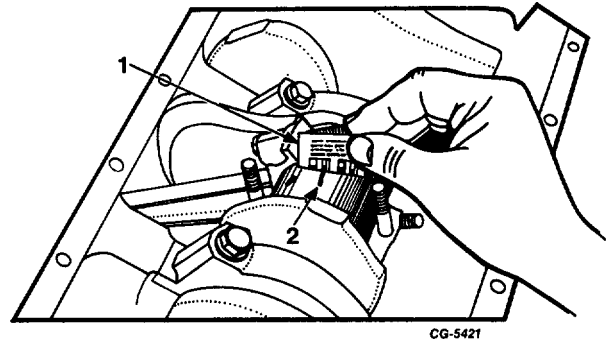

Fig. 128 Checking Connecting Rod Bearing Clearance
- Remove bearing cap and use Plastigage scale to measure widest point of Plastigage, Figure 128. This reading indicates the bearing clearance in thousandths of an inch.